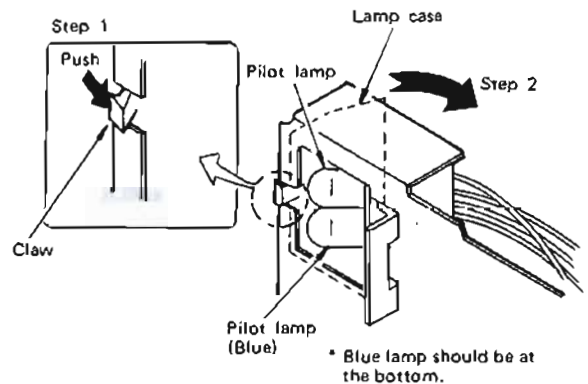

Fig. 7
• How to replace the pilot lamp (Fig. 7)